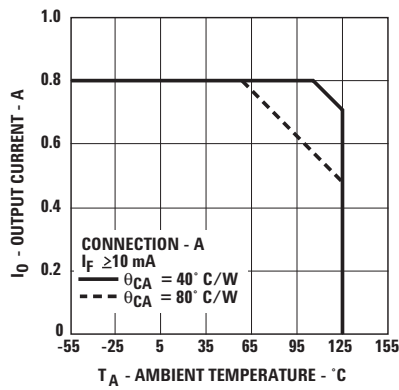
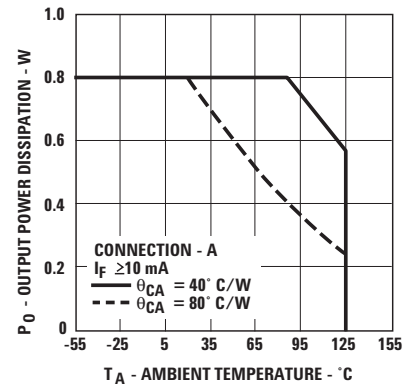

Figure 2. Maximum Average Output Current Rating vs. Ambient Temperature.
Figure 4. Output Power Rating vs. Ambient Temperature.
2. For rating, see Figure 4. The output power P_O rating curve is obtained when the part is handling the maximum average output current I_O as shown in Figure 2.
IN ORDER TO DETERMINE V_{OUT} CORRECTLY, THE CASE TO AMBIENT THERMAL IMPEDANCE MUST BE MEASURED FOR THE BURN-IN BOARDS TO BE USED. THEN, KNOWING θ_{CA} , DETERMINE THE CORRECT OUTPUT CURRENT PER FIGURES 2 AND 4 TO INSURE THAT THE DEVICE MEETS THE DERATING REQUIREMENTS AS SHOWN.
The output on-resistance, R_{ON} , specified in this data sheet, is the resistance measured across the output contact when a pulsed current signal ($I_O = 800 \text{ mA}$) is applied to the output pins. The use of a pulsed signal ($\leq 30 \text{ ms}$) implies that each junction temperature is equal to the ambient and case temperatures. The steady-state resistance, R_{SS} , on the other hand, is the value of the resistance measured across the output contact when a DC current signal is applied to the output pins for a duration sufficient to reach thermal equilibrium. R_{SS} includes the effects of the temperature rise of each element in the thermal model. Rating curves are shown in Figures 2 and 4. Figure 2 specifies the maximum average output current allowable for a given ambient temperature. Figure 4 specifies the output power dissipation allowable for a given ambient temperature. Above 55°C (for $\theta_{CA} = 80^{\circ}\text{C/W}$) and 107°C (for $\theta_{CA} = 40^{\circ}\text{C/W/W}$), the maximum allowable output current and power dissipation are related by the expression $R_{SS} = P_{O(max)} / (I_{O(max)})^2$ from which R_{SS} can be calculated. Staying within the safe area assures that the steady-state junction temperatures remain less than 150°C . As an example, for $T_A = 95^{\circ}\text{C}$ and $\theta_{CA} = 80^{\circ}\text{C/W}$, Figure 2 shows that the output current should be limited to less than 610 mA . A check with Figure 4 shows that the output power dissipation at $T_A = 95^{\circ}\text{C}$ and $I_O = 610 \text{ mA}$, will be limited to less than 0.35 W . This yields an R_{SS} of 0.94Ω .